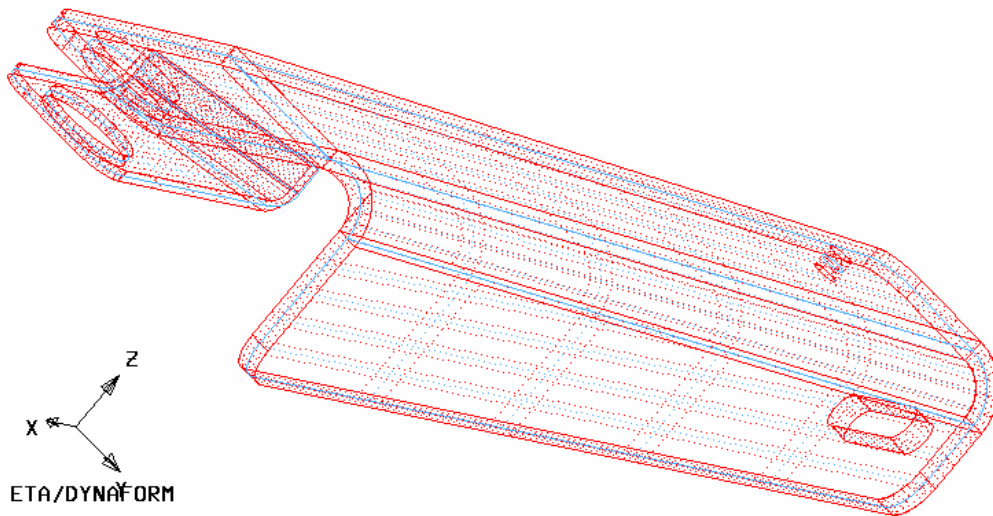

Figure 5.2.9 Mid Surfaces
2. After selecting the entire surfaces, the program will generate the mid surface automatically as Figure 5.2.9 shown. At the same time a new part named MIDSRF is created and all the created